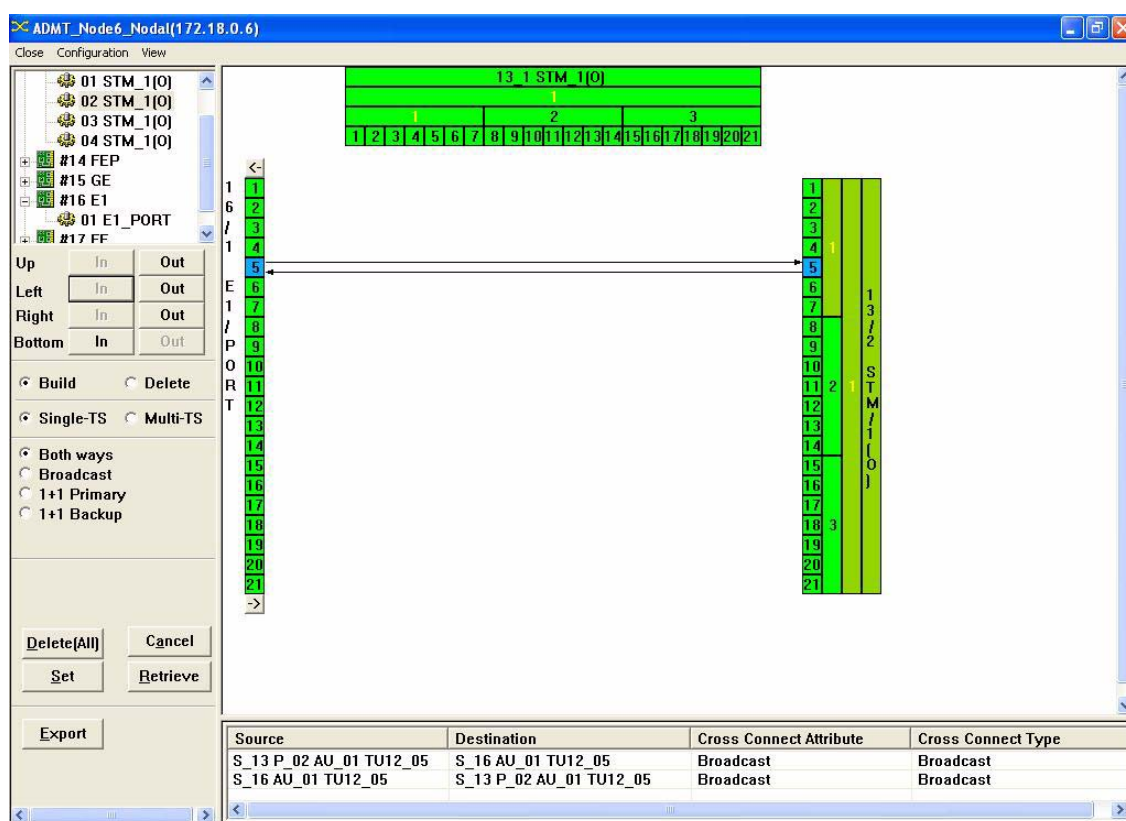

Fig. 4-5-93 Cross Connect Configuration Dialog Box
- 3 Select **Cross Connect Configuration** from the **Configuration** menu. The **Cross Connect Configuration** dialog box shown in *Fig. 4-5-93* appears: